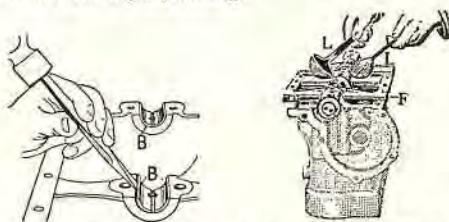

Fig. 16 (left). Removing old babbitt. Fig. 17 (right). Pouring the babbitt into upper main bearing seats.
Remove old babbitt (B) from seats (Fig. 16). The bearings are of the cast-in, or solid integral type.